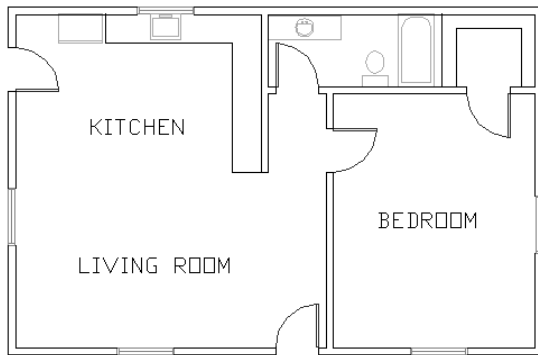

**Figure 16-27:** A floor plan of an apartment that is drawn using multilines.
*Multilines* are sets of parallel lines that you draw with one command. You can specify how far apart they are, and each line can have its own color and linetype. Multilines are used for drawing architectural plans where you need to draw an inner and outer wall. (I cover a 3D version, polysolids, in Chapter 24.) To draw a multiline, you first define, save, and load a multiline style. Then you can use the multiline style to draw multilines. There is a separate command for editing multilines that enables you to break multiline intersections, as you would for the doors and windows in a floor plan. Figure 16-27 shows a floor plan for an apartment drawn using multilines.